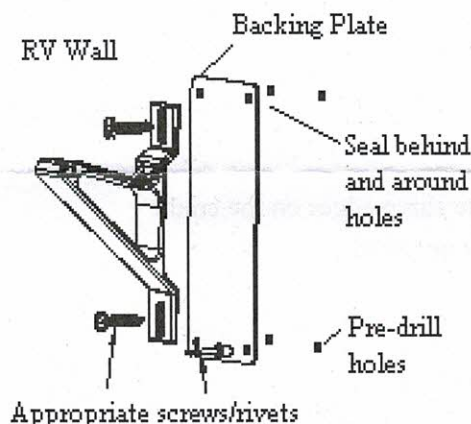

Figure 3
6. If the backing plate is to be utilised, position it within the confines of the bracket length and fix it to the RV wall using the pre-drilled holes and appropriate fasteners – see figure 3. The kit is supplied with screws and rivets, but the installer must check length and suitability of those fixings for compatibility with the RV wall being worked upon. If necessary, use extra screws/rivets to fix the plate to the frame/reinforced area of the RV wall. Use a sealant/adhesive behind the plate to assist fixing and to prevent water entry into the RV wall. (Check www.aussietraveller.com.au for information on sealants and tapes.)